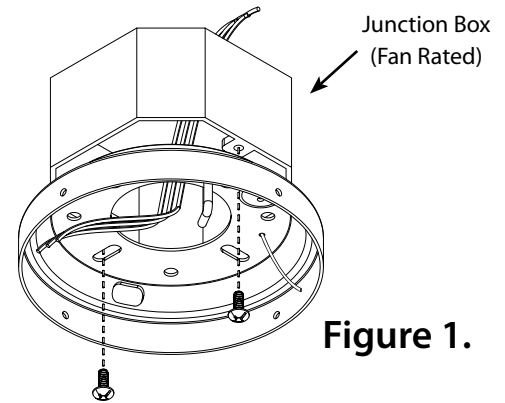

Figure 1.
- Pass the electrical wires from the ceiling through the ceiling mount center hole as shown in Figure 1.